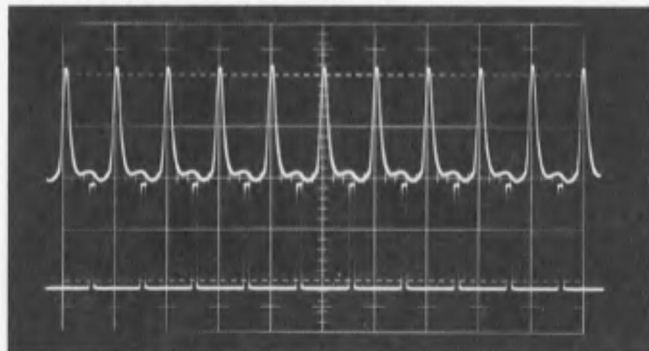

Fig. 4-9. Crt display showing correct adjustment of fast period capacitor C115F.
b. Set the Type 547 TIME/CM (B) switch to 1 μSEC. Push in the PULL TO INVERT switch on Channel 2 of the Type 1A1.
d. Using the Type 1A1 POSITION controls, put the peak of the first pulse from the Type 114 to some reference point on the first pulse from the Type 180A (see Fig. 4-9).
e. Adjust capacitor C115F (see Fig. 4-10) so that the peaks of the pulses from the Type 114 occur at the same point on each succeeding pulse from the Type 180A as shown in Fig. 4-9. Allowable error is 3%, but it is possible to adjust much closer than this.